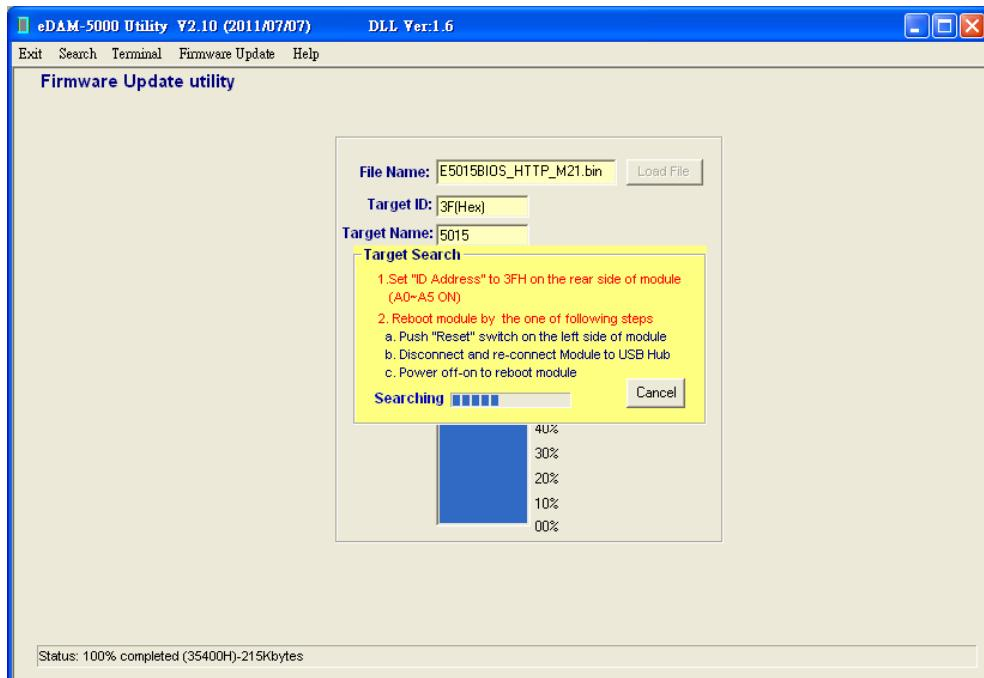

Figure 15-8
8. The Utility is searching module. Power-off /on the module or press “Reset button” at the down side of the module to reboot the module. (see Figure 15-8)